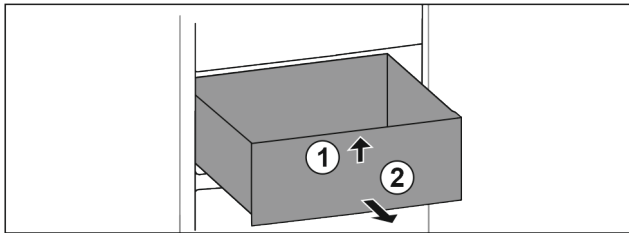

Fig. 79
- Lift up drawer at the front. Fig. 79 (1)
- Remove drawer to the front. Fig. 79 (2)